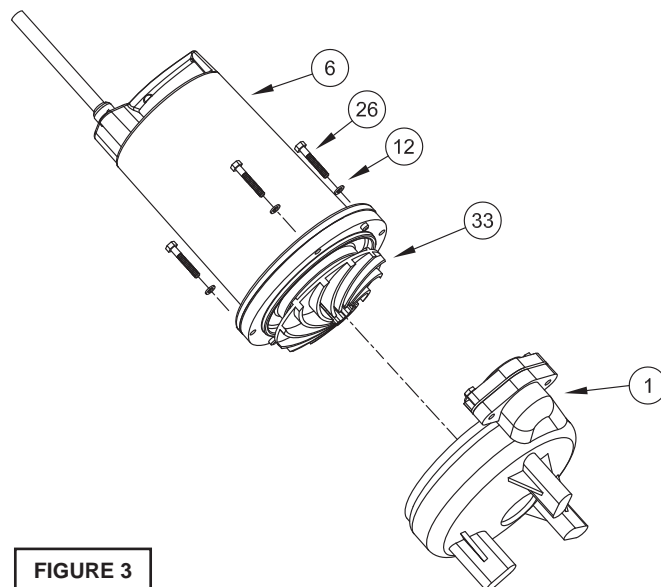

FIGURE 3
To clean out volute (1) or replace impeller (33), disconnect power, remove hex bolts (26), and lock washer (12), vertically lift motor and seal plate assembly from volute (1) and spacer ring (31), see Figure 3. Clean out body if necessary. Clean and examine impeller (33), for pitting or wear and replace if required, inspect gasket (36) and replace if cut or damaged. If the impeller (33) needs replacing, place a flat screwdriver in the slot of the end of the shaft to hold the shaft stationary while unscrewing the jam nut (66) and impeller (33).